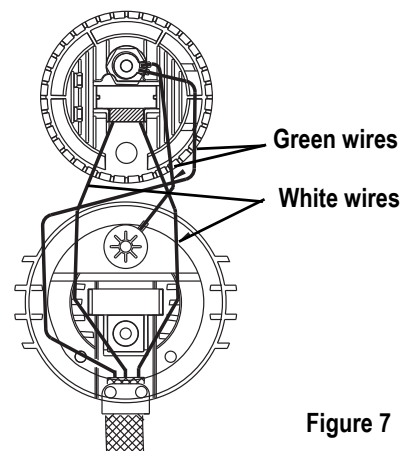

Figure 7
- Step 13: Lay the leads in the bottom half of the cable clamp (located in the housing socket casting [1]), making sure that the fiberglass sleeving extends slightly past the screw holes in the housing socket casting. Install new sleeving if necessary. Then, route the wires as shown in Figure 7.
- Step 18: Before proceeding, check again to make sure the wires are still positioned as indicated in Figure 7. Adjust if necessary.